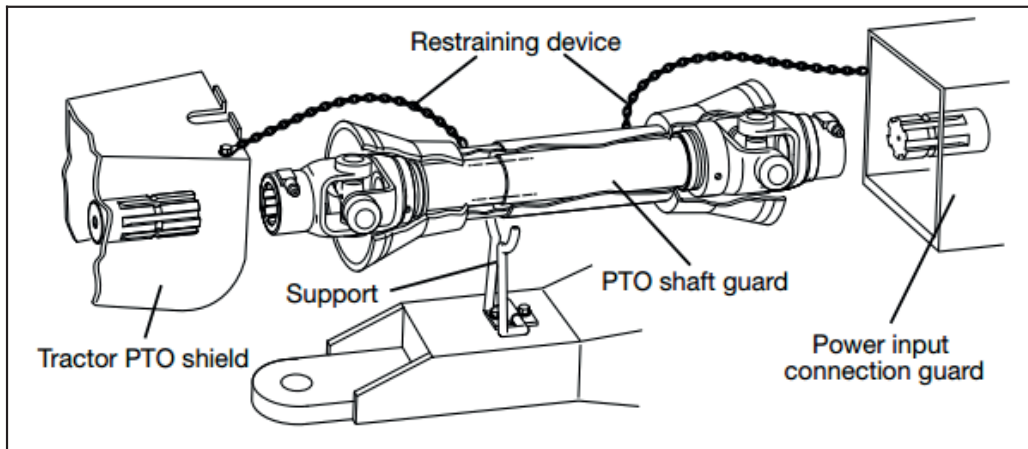

Figure 16- PTO shaft safety chain connection.
- Small chains are supplied with the driveline. They must be attached to the inner and outer driveline shields and to the tiller and tractor to restrict shield rotation. (Figure 16)